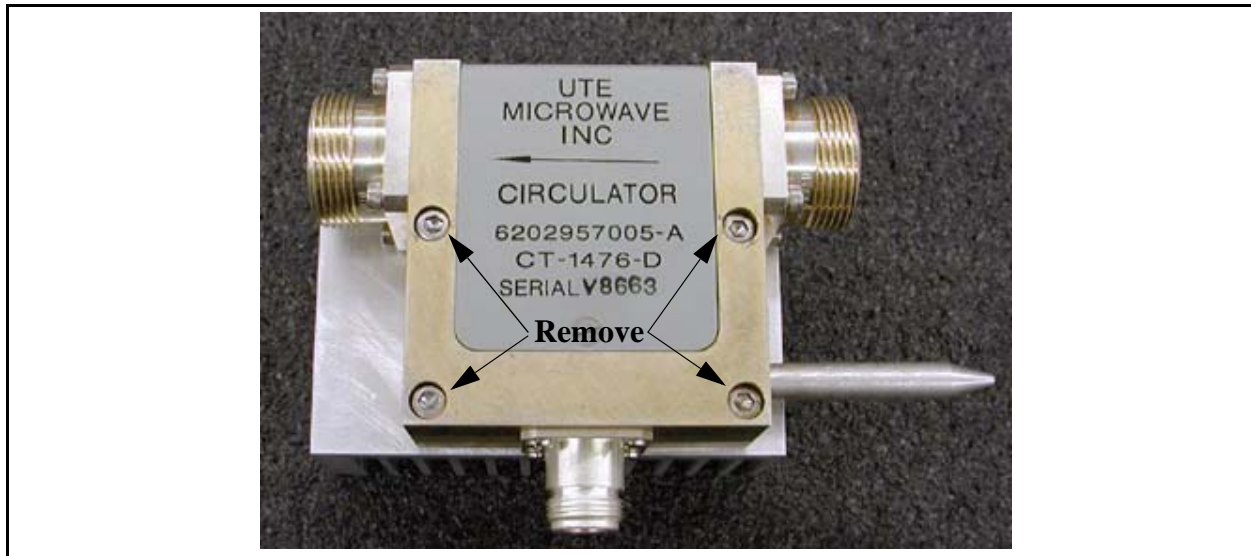

Figure 5-6 Circulator Side View
- STEP 6** The circulator screws are hex head and require an allen tool to remove. These screws are shown in Figure 5-6.